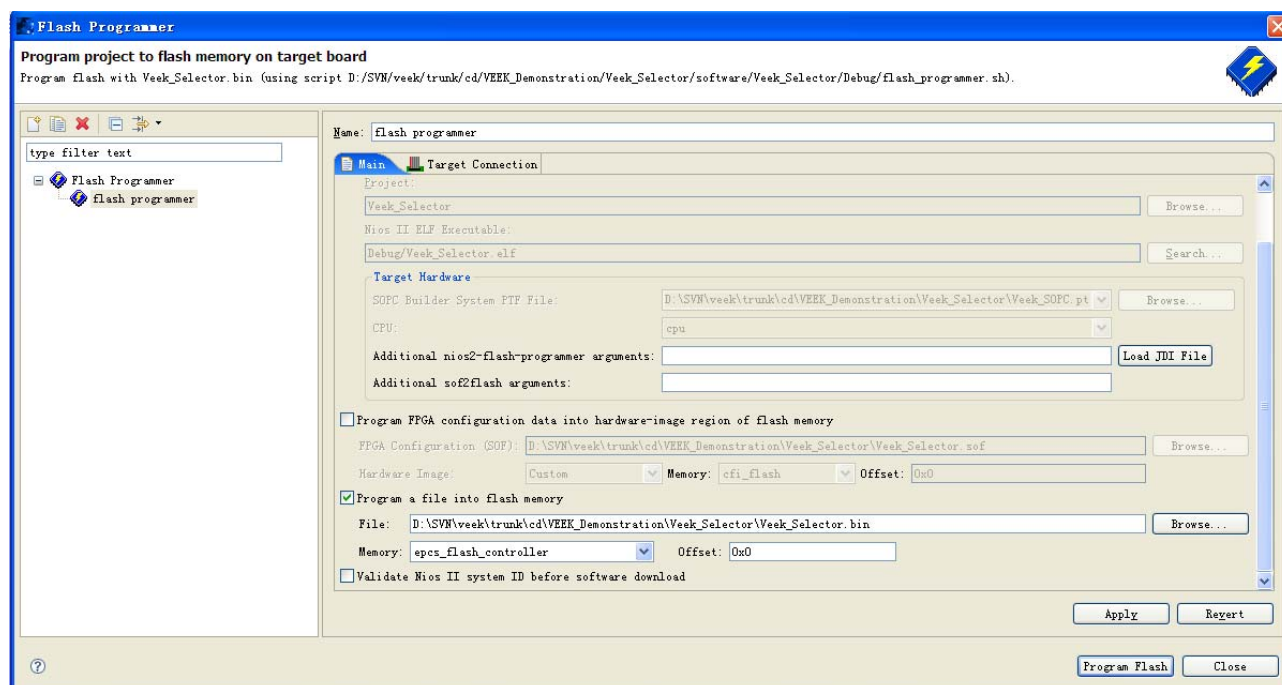

Figure 5-2 Programming Flash settings
- Choose Program a file into memory, choose your VEEK_Selector.bin file. See Figure 5-2